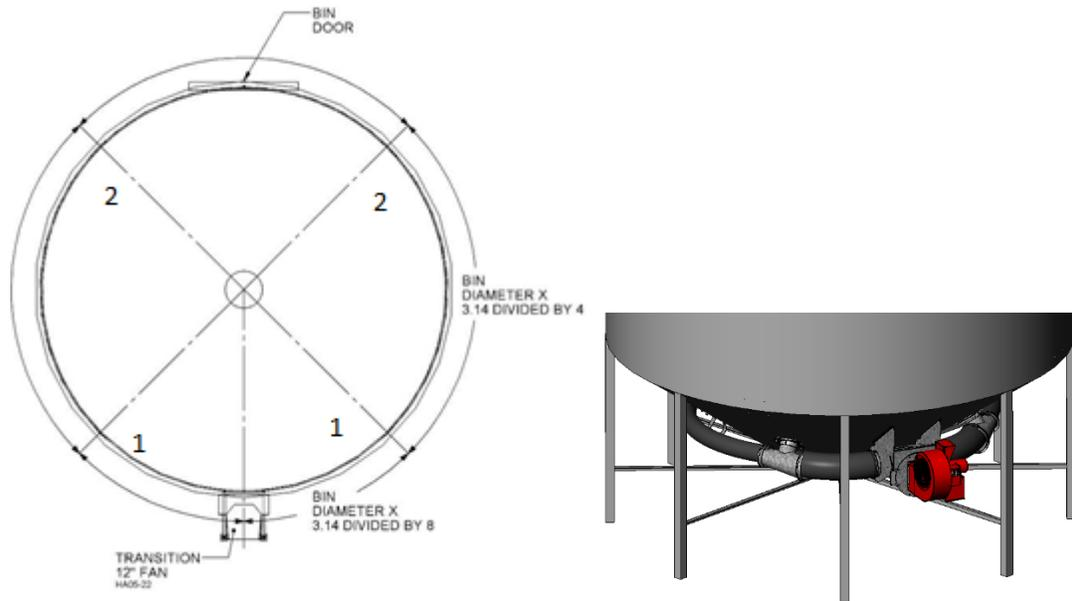

Figure 3.4.1a: Hole Layout (4 column)
1. See Figure 3.4.1a below, shows how the fan transition mounting frame will be in the hopper bottom framework. The location of the fan mount and transitions should be opposite the hopper manhole.